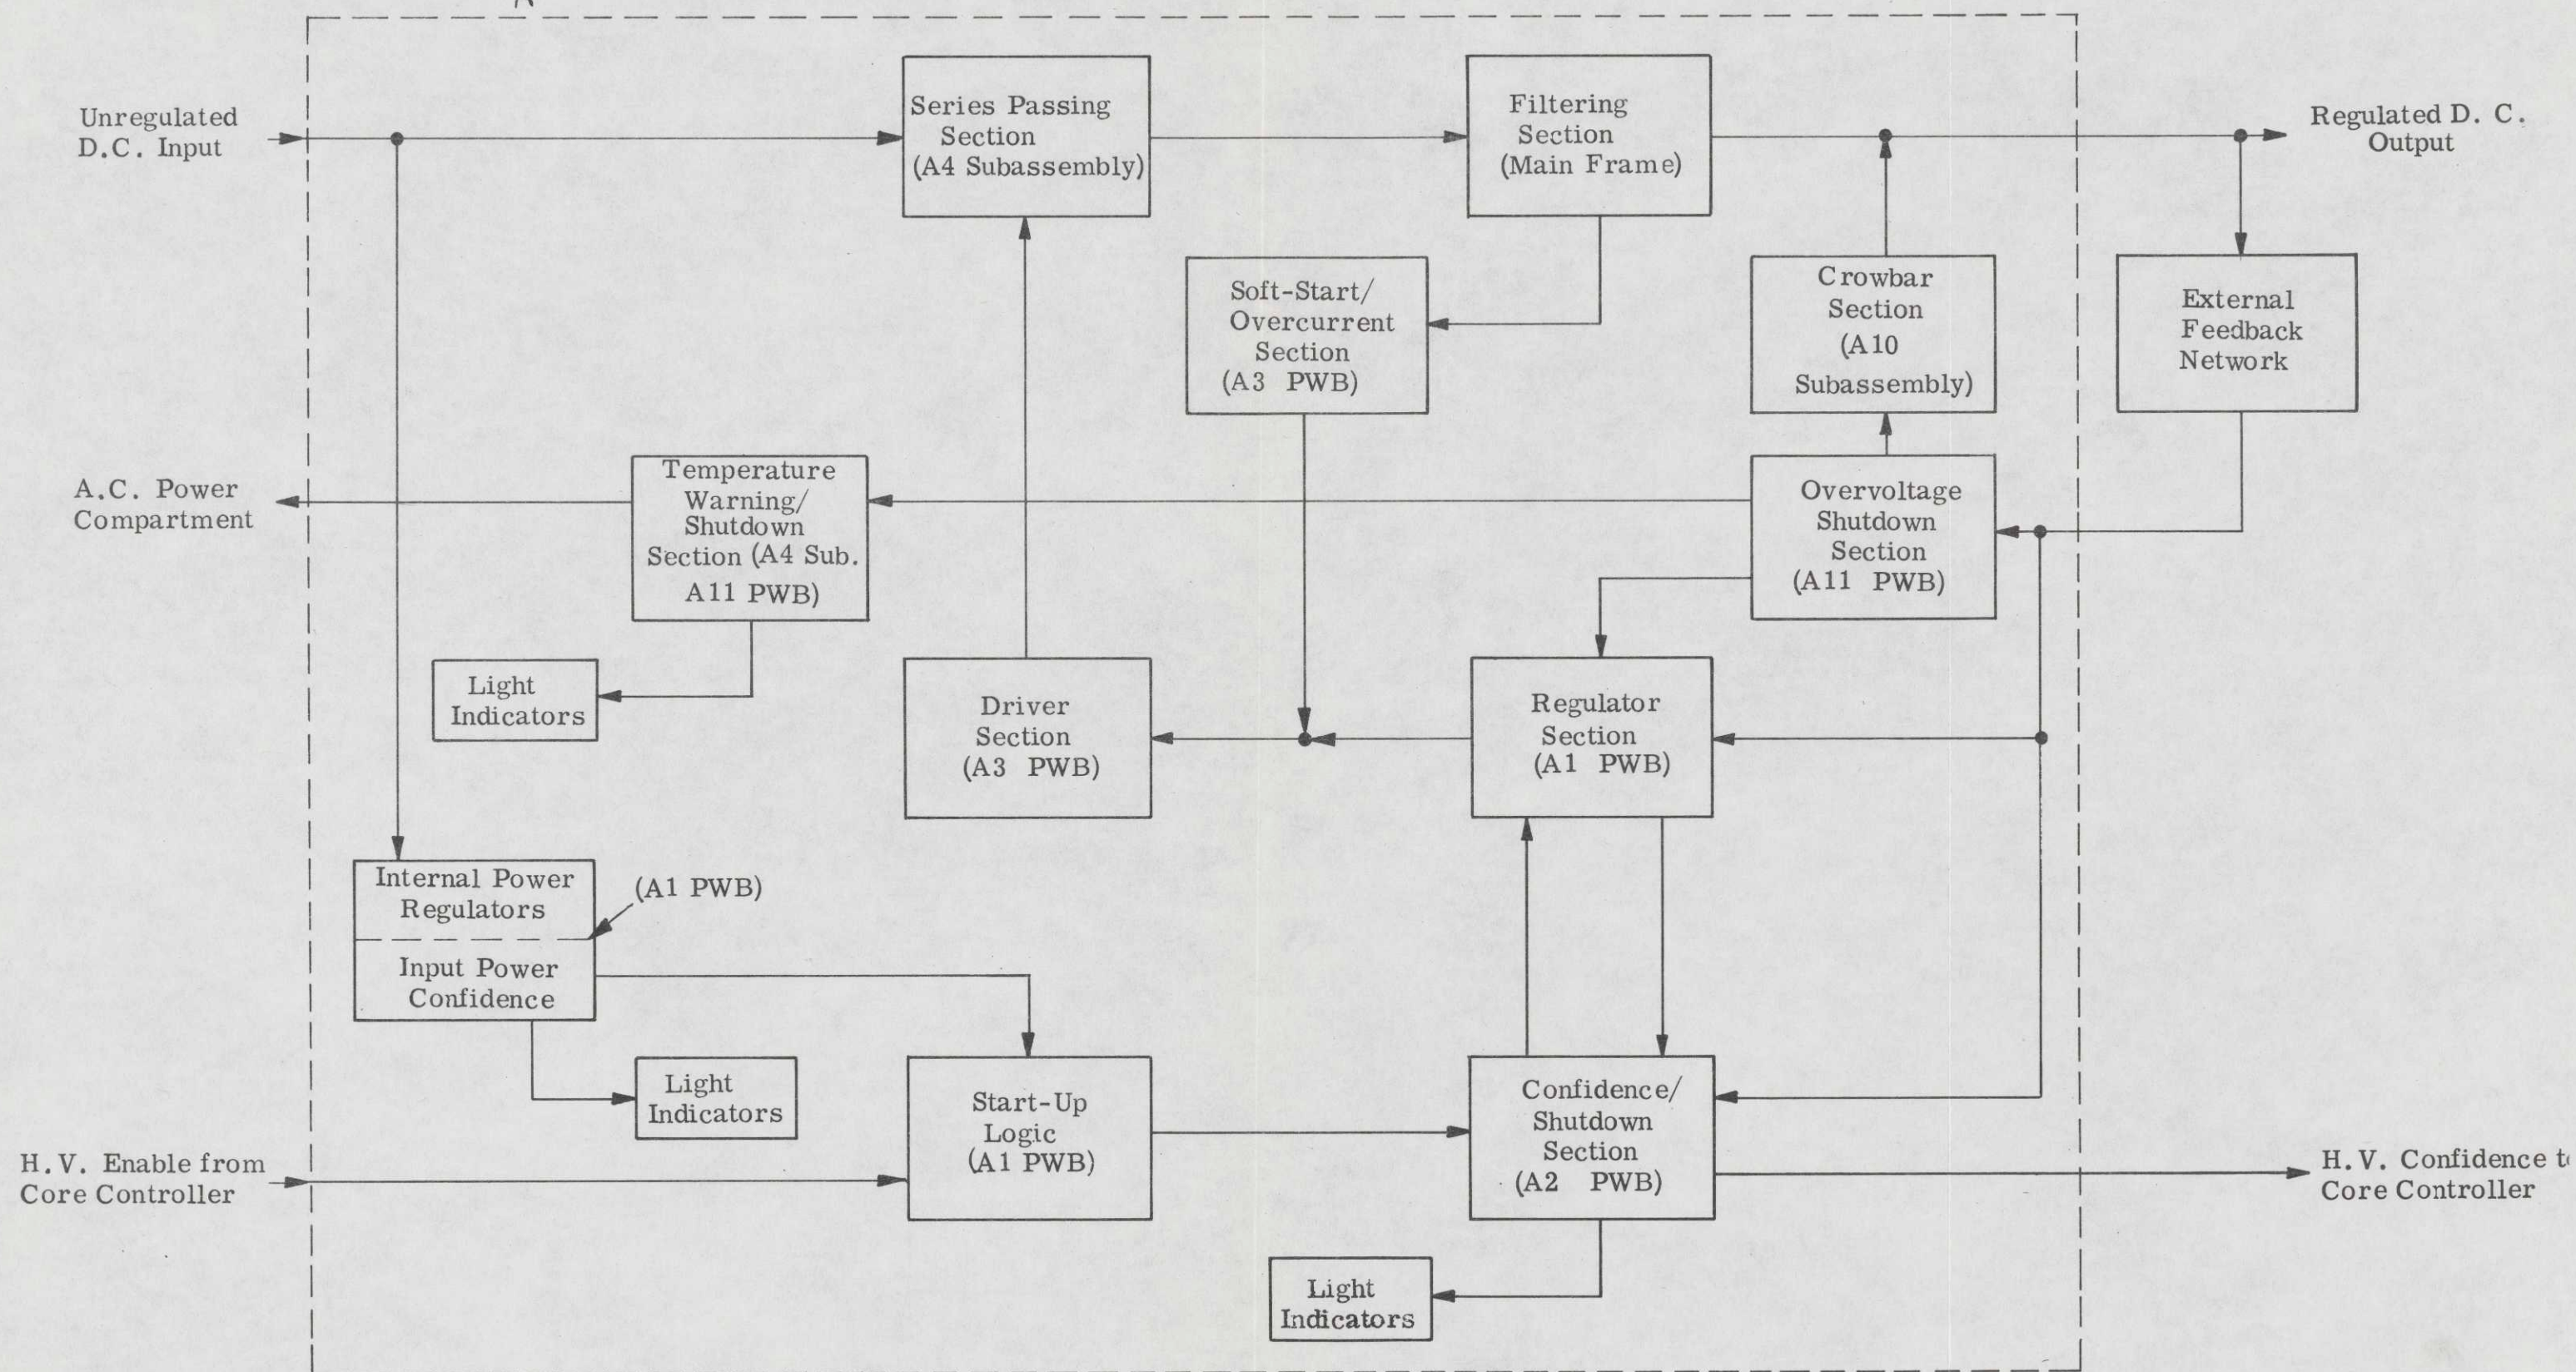
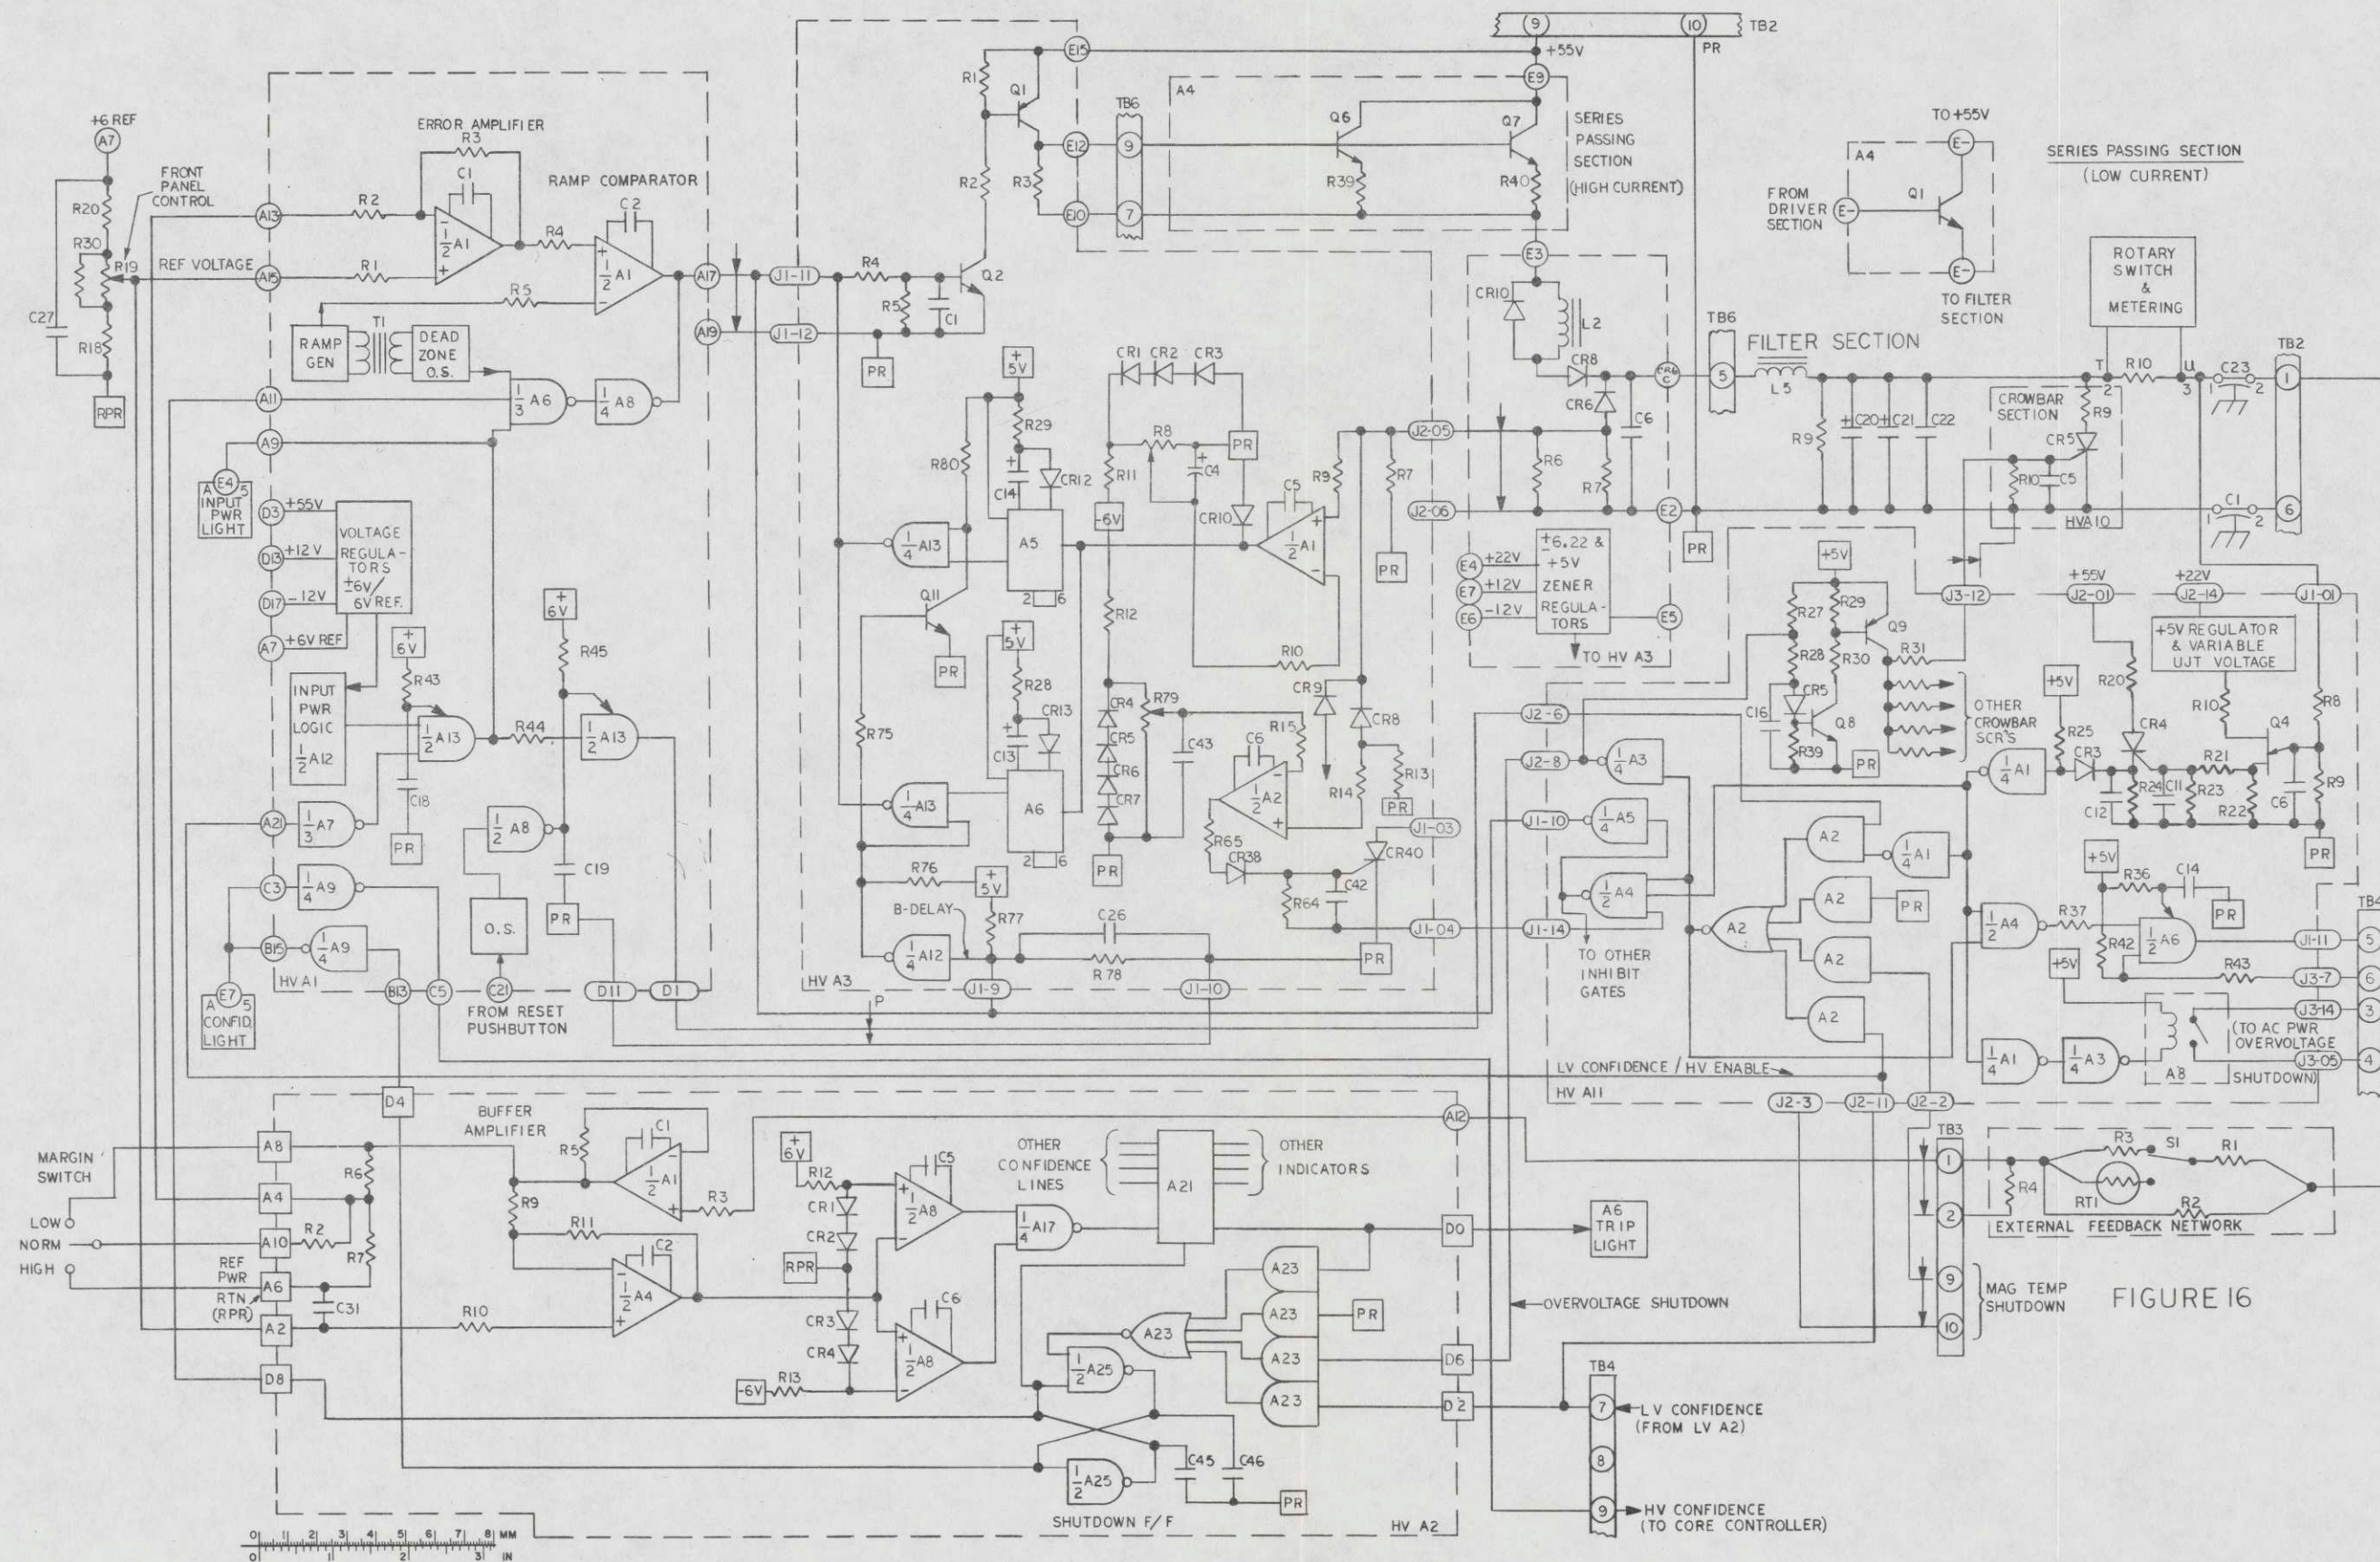

Figure 15 H.V. Regulator Functional Block Diagram
Figure 16 HV Regulator Loop (Bit #1)
Figure 15 is a block diagram illustrating the functional blocks of one regulator. These can be grouped into two categories; those that are links of the control loop and those that are necessary to sequence and protect the regulators. The basic control loop and the three protection circuits are discussed in this section. The startup/turn-off sequencing and temperature control circuitry are discussed separately in Sections 2.6 and 2.7, since their operation involves other modules.
The basic control loop consists of five blocks illustrated in Figure 15; (1) a series passing section, (2) a filter section, (3) a regulator section, (4) a driver section, and (5) a feedback network. Referring to Figure 16, each section is illustrated in detail. The primary path of power flow is from the unregulated TR bulk voltages through the series passing and filtering section to the output load. Voltage regulation is accomplished by a feedback signal from the output of the module, which tells the series passing section how much power to deliver to the output load. The time-ratio control technique determines how much power to deliver by turning the passing transistors on and off in proportion to the input bulk and regulated output voltages. For example, if the derived output voltage is 30 volts and the bulk is 50 volts, the on-time, t_{on} , would be approximately 60 percent.
The regulator section consists of (1) a feedback reference divider, (2) an error amplifier, (3) a free-running ramp generator, (4) a dead zone one-shot, and (5) a ramp comparator. All of these functions are performed on the HVA1 and A2 PWB's as shown in Figure 16. The regulator section senses the output voltage and tells the passing transistor to turn on or off at the proper times to maintain the desired output voltage.
R19, the front panel control for the Bit #1 regulator is illustrated in Figure 16. It is the top potentiometer in Figure 10a. This figure also identifies the other bit and word controls.
Switch S4 for the Bit #1 regulator is shown in Figure 16. This switch connects a shunt resistor into the feedback path and changes the ratio of the error voltage.
Input power and confidence indicators are located on HVA5 and illustrated in Figure 16. The input power indicator lights only after the +12, -12, and +55 volts have been applied to the module and the voltage regulators on HVA1 operate. If this does not occur, A13, which initiates the A Delay period will not time out and the regulators cannot be turned on.